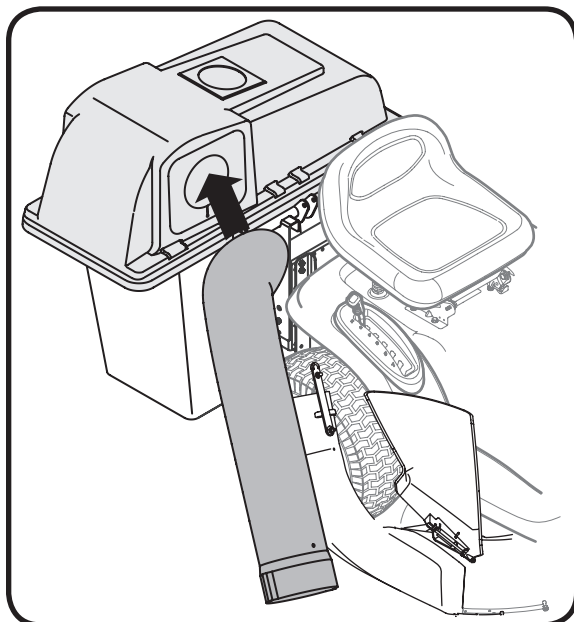

Figure 25
6. Insert the curved end of chute tube into the hole in the grass bag cover. See Figure 25.